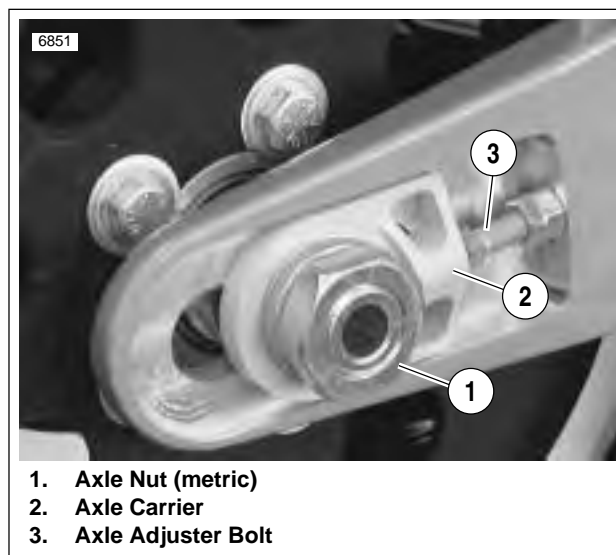

Figure 1-22. Rear Axle Adjuster
2. See Figure 1-22. Loosen rear axle nut (1) (metric), if not already loose.